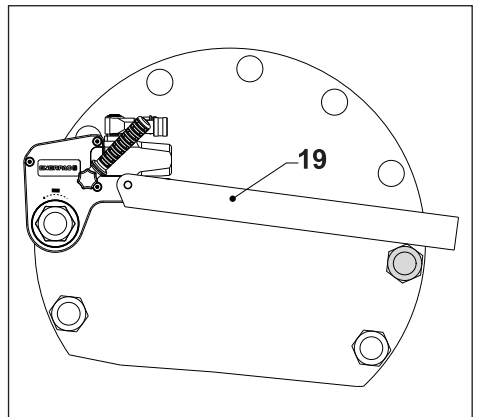
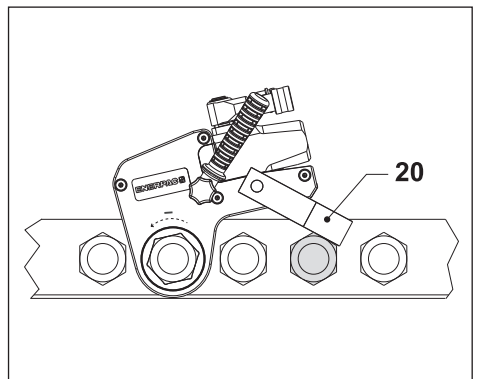

Fig. 13
Fig. 14
4.3.4 Using an Extended Reaction Arm (Fig. 13)
- Position the WTE Series extended reaction arm (19) against a suitable reaction point. The reaction point will counteract the force caused by operating the tool.
4.3.5 Using a Reaction Paddle (Fig. 14)
- Position the WRP Series reaction paddle (20) against a suitable reaction point. The reaction point will counteract the force caused by operating the tool.
Refer to Figs. 14 and 17 for swivel components.